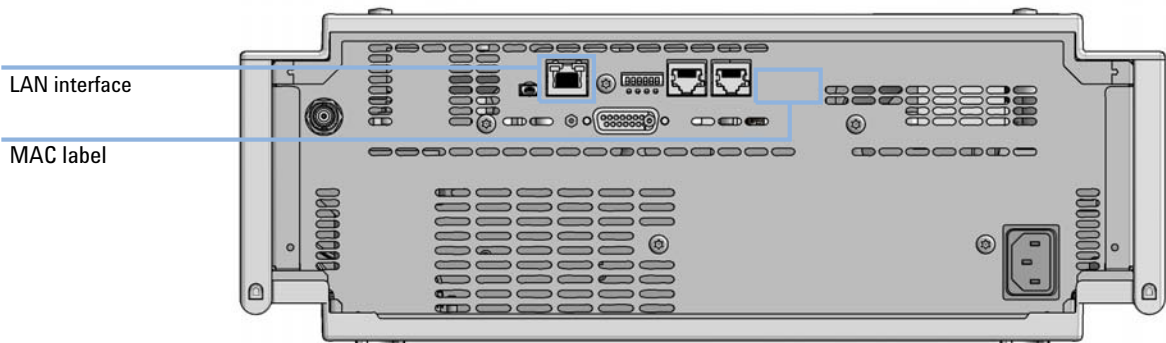

Figure 28 Location of LAN interfaces and MAC label
- 1 Note the MAC (Media Access Control) address for further reference. The MAC or hardware address of the LAN interfaces is a world wide unique identifier. No other network device will have the same hardware address. The MAC address can be found on a label at the rear of the module underneath the configuration switch (see Figure 28 on page 178).
- 2 Connect the instrument's LAN interface (see Figure 28 on page 178) to